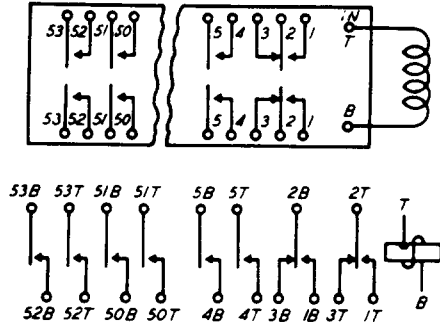

Fig. 45 - Winding and Spring Terminal Arrangement as Viewed From the Rear (terminal side) — 229-Type Relay
2.53 The contact terminals are numbered consecutively from right to left facing the terminal side of the relay with the suffix T (top) and B (bottom) as shown in Fig. 45 and 46 except on relays used in equipment where the contact terminals are identified by functional designations.